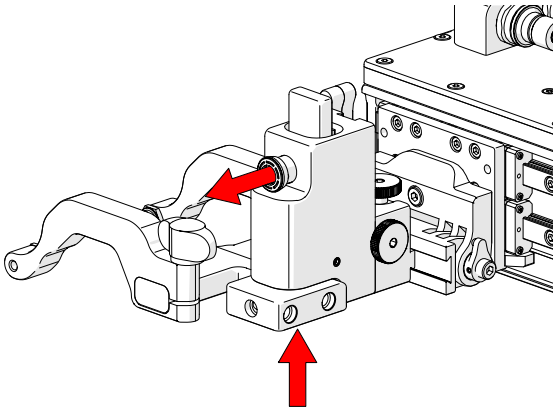
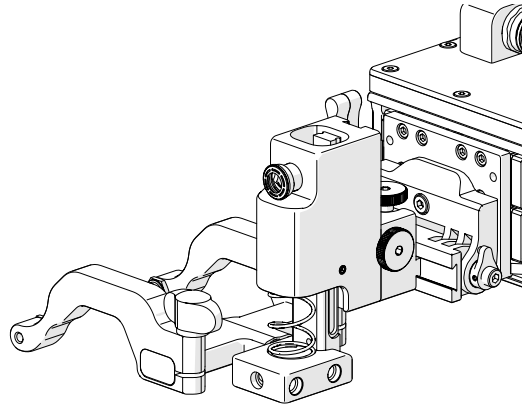

Fig. 78 - Press up and pull latch
Fig. 79 - Lowered toward scan surface
1. Gently lift the heavy duty vertical probe holder and simultaneously pull the latch (*Fig. 78*). This action will unlock the probe holder. Slowly lower the probe holder towards the scan surface (*Fig. 79*).